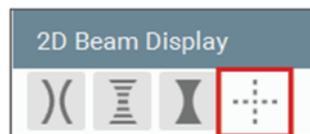

Figure 12: Crosshair Icon in the 2D Beam Display Toolbar
4. Start the BeamWatch software and enable the **Crosshair** located at the top of the **2D Beam Display toolbar** (Figure 12).